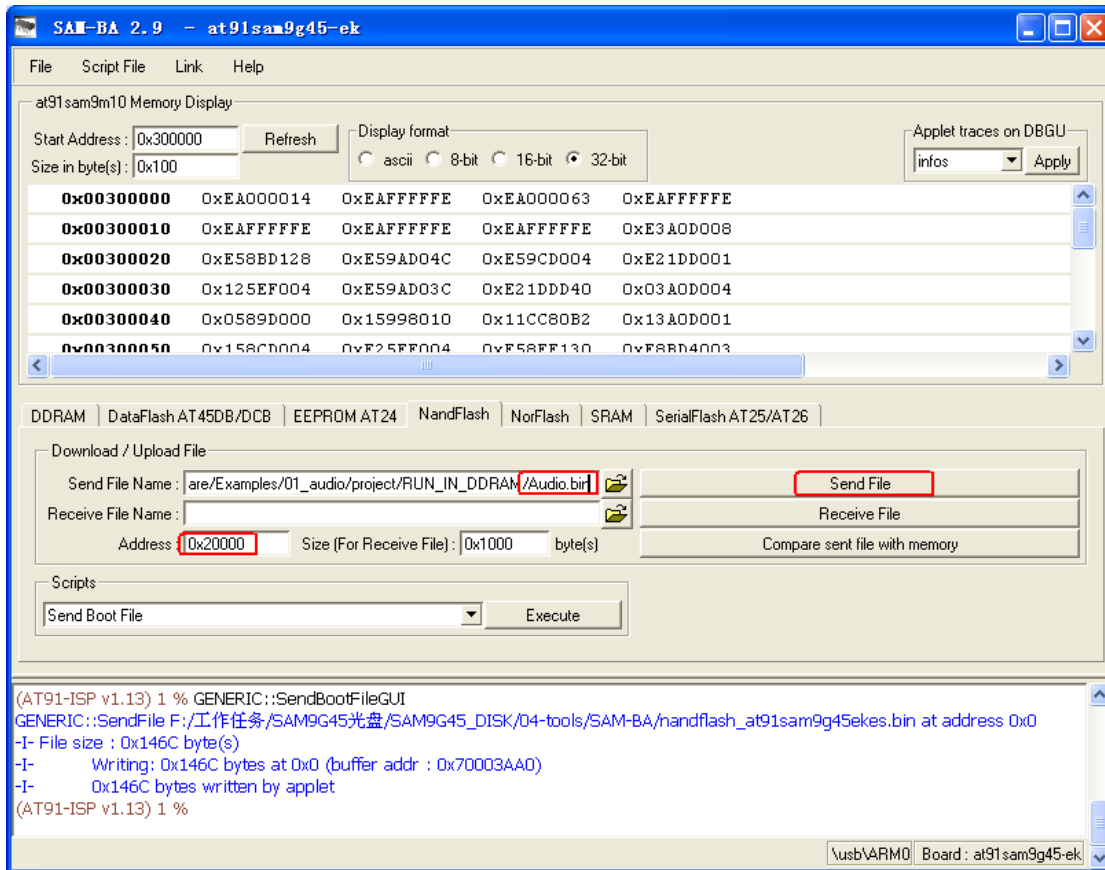

Figure 3-16
c. Download software. Choose compiled Audio.bin in Send File Name. Write 0x20000 in Address text. Refer to figure 3-16: